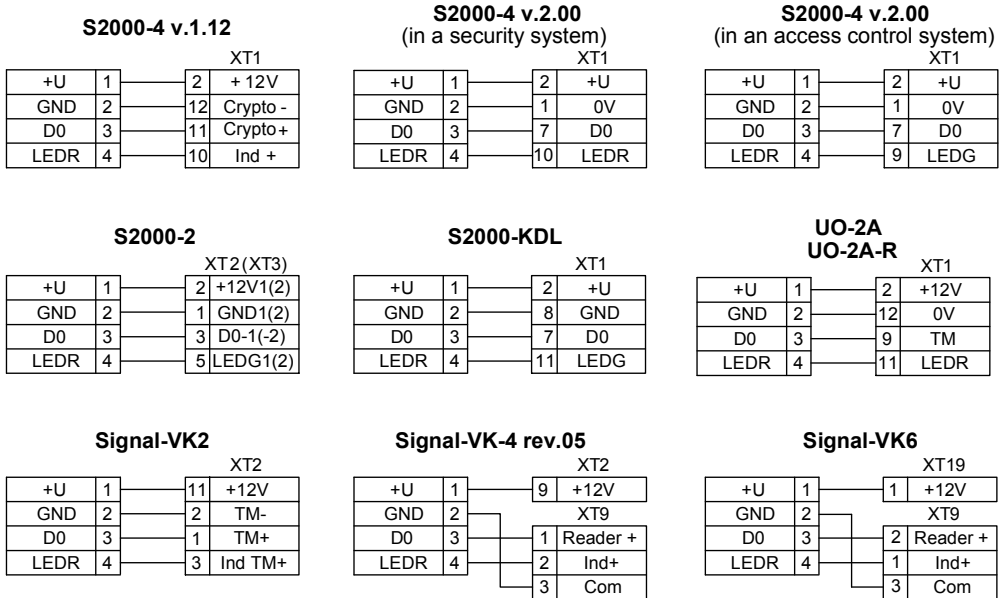

Figure 2
2.2.1 Figure 2 shows diagrams of connection of the S2000-Proxy N with Bolid manufactured CIE and access controllers.